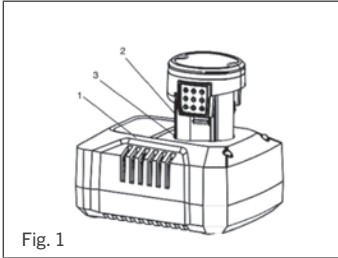

Fig. 1
1. To charge the battery, place the charger (1) in a dry location near a 120 V AC, 60 Hz electrical outlet (Fig. 1).
2. Place the battery stem (2) into the matching cavity (3) in the top of the charger (Fig. 1).